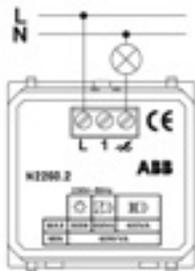
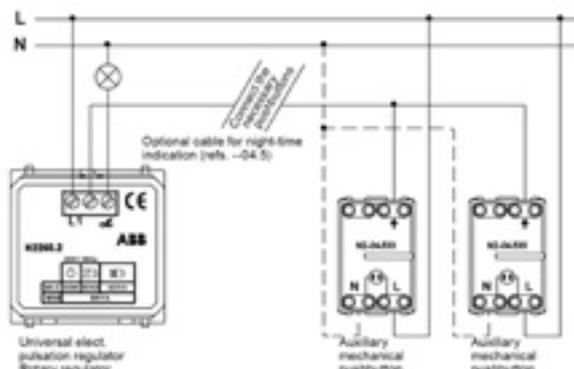

Figure 1:
Figure 2: Special wiring diagram
The electrical wiring for these devices is performed according to the wiring diagram shown in Figure 1.
The terminal indicated with  $\overline{N}$  represents the conductor wiring terminal returning from the load, which is also connected to the neutral conductor of the installation. See Figure 1.
The terminal marked "1" is used to exercise control from several points by means of conventional push buttons. See Figure 2.
If the device is installed individually, follow the instructions indicated in Figure 1.
The outputs of these push buttons are connected to terminal "1". See Figure 2.
1. Connect the device based on the corresponding wiring scheme. Figure 1 and Figure 2.